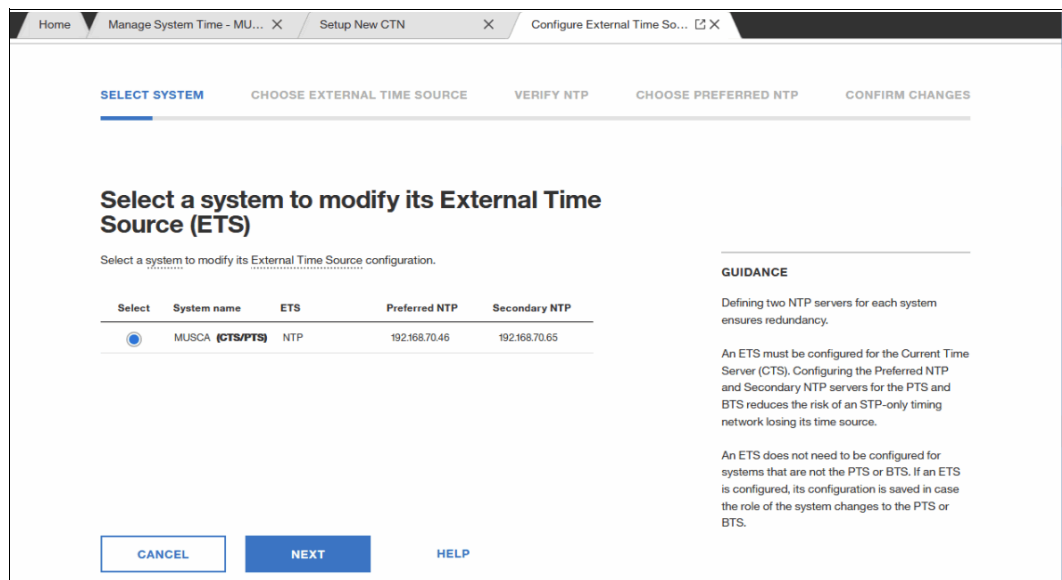

Figure 8-45 Select the system on which to modify the External Time Source (ETS) window
2. The Select the system on which to modify the External Time Source (ETS) window opens. Select the CPC for which to modify the ETS setting. We select **MUSCA** (the only CPC in this CTN) in this window. Click **NEXT** to continue (see Figure 8-45).